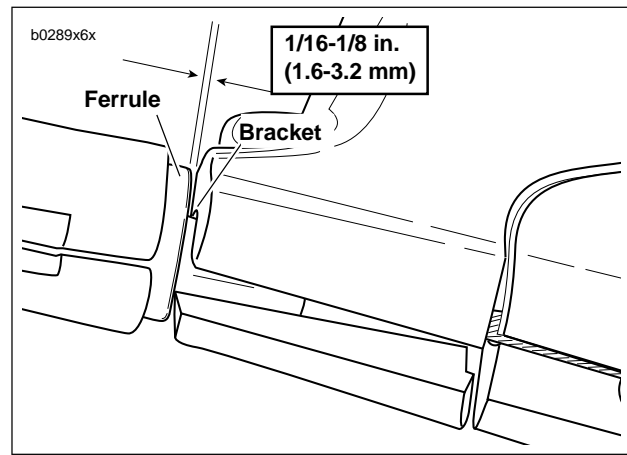

Figure 1-22. Adjusting Clutch Free Play
- a. See Figure 1-22. Pull ferrule (end of cable housing) away from bracket. Gap between ferrule and bracket should be 1/16-1/8 in. (1.6-3.2 mm).